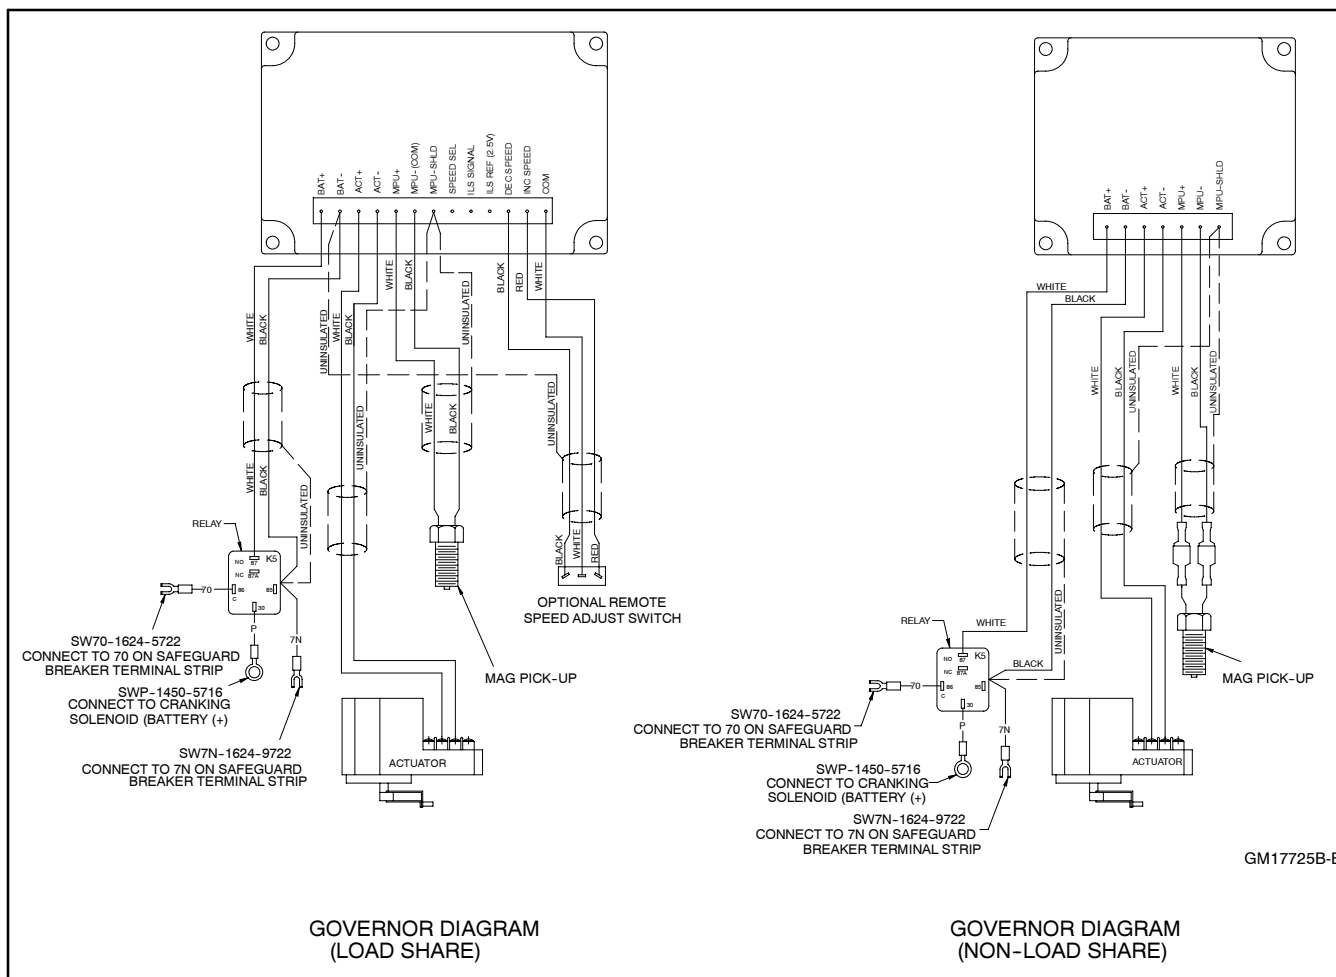

Figure 3 Governor Controller Connections
- 3.8 Attach the engine wiring harness to the governor controller as shown in Figure 3.